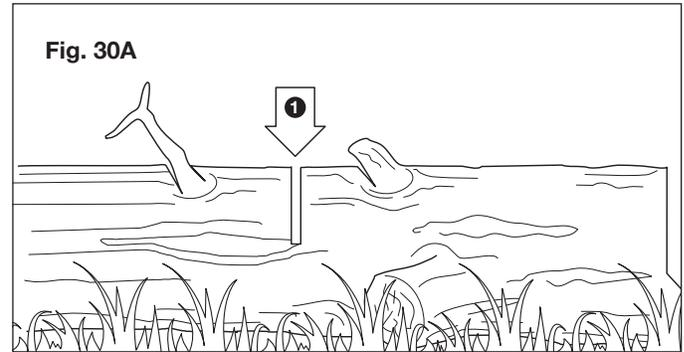

Fig. 30A
- When the log is supported along its entire length as illustrated (Fig. 30A), cut from the top (overbuck).